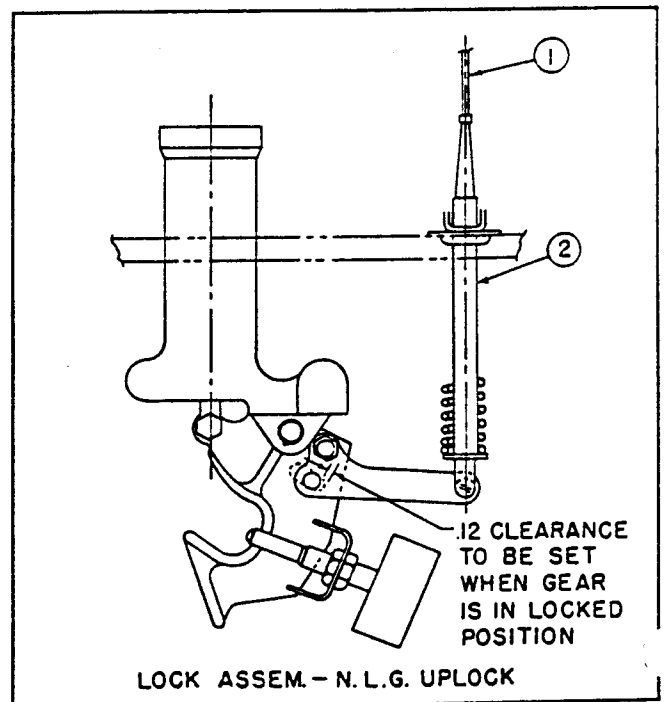

Figure 39. Rigging Nose Gear Normal and Emergency Control Cables
e. Install cable assembly (figures 39 and 40, references 1 and 4) and adjust rod (see figure 39, reference 2).